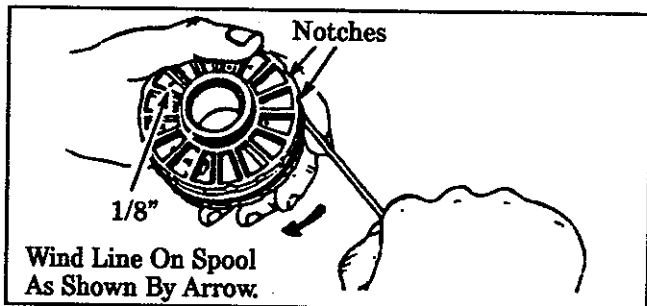

Figure 25
- d. Insert 1/16" to 1/8" of the end of the Line through one of the holes in the rim of the Spool. Allow no more than 1/8" line to extend beyond the rim to avoid interference with line release action. Figure 25 .
- e. Wind the Line onto the Spool in the direction shown by the arrow on the Spool and as tightly and evenly as possible so the line will feed properly. Figure 25 .